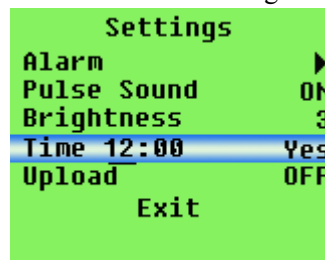

Figure 8.
b. When the"Start" is displayed on the menu,if the memory still have the former data in storage ,the " Do you really want to recover the memory" dialog box will be displayed when pressing the "menu"button ,then press the"up button"or"down button"to choose setting,then press the"menu button"to confirm setting,the dialog box will be displayed as figure 8:It needs to set the starting time for data storage by users, users can change the setting value by pressing the"up button"or"down button",and confirm the setting value by pressing the"menu button",the black cursor will move to next place after setting.When the black cursor move to "Yes"(store) or "No"(don't store),press the"up button"or"down button"to choose setting,then press the"menu button"to confirm setting.